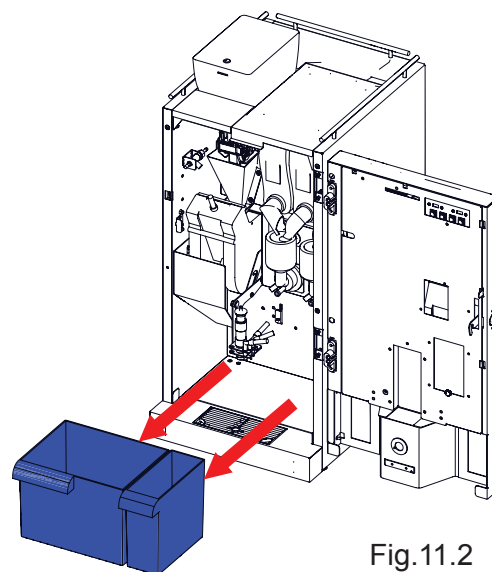

Fig.11.2
11.2.1.3 Waste containers (see fig. 11.2)
4. Disassemble, clean and assemble the cappuccinatore (see fig. 11.2):
- by simultaneously turning and pulling on the part (1);
- then simultaneously turning and pulling on the part (2);